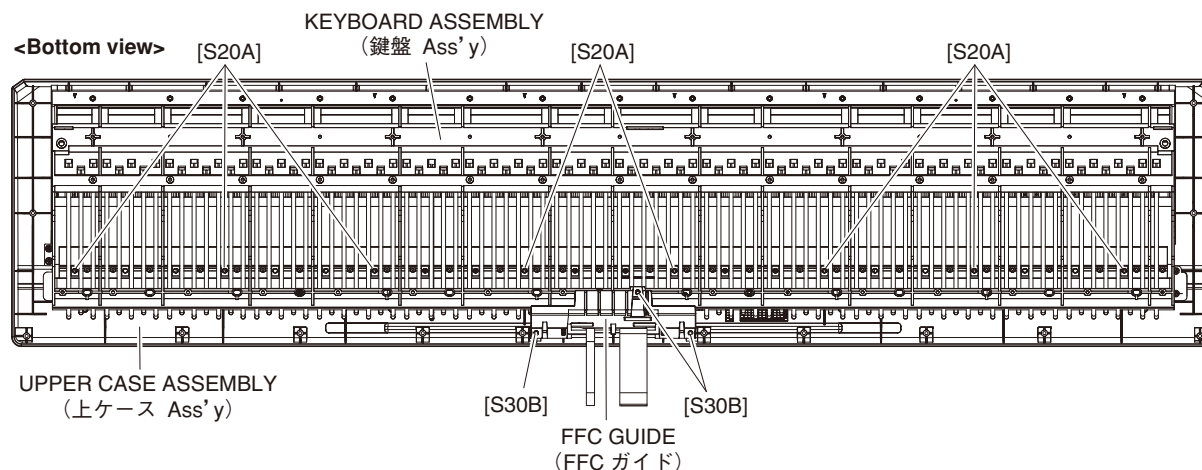

Fig. B-4 (図 B-4)
- B-5-2. Remove the three (3) screws marked [S30B], then remove the FFC guide. (Fig. B-4)
- B-5-3. Remove eight (8) screws marked [S20A]. The keyboard assembly can then be removed. (Fig. B-4)
(図 B-4)